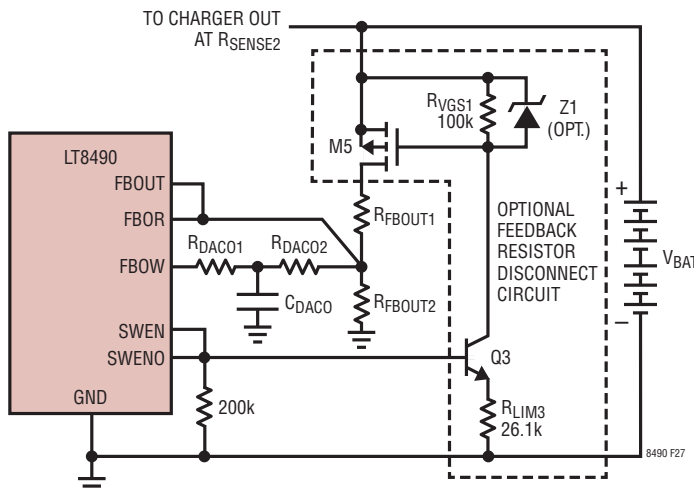
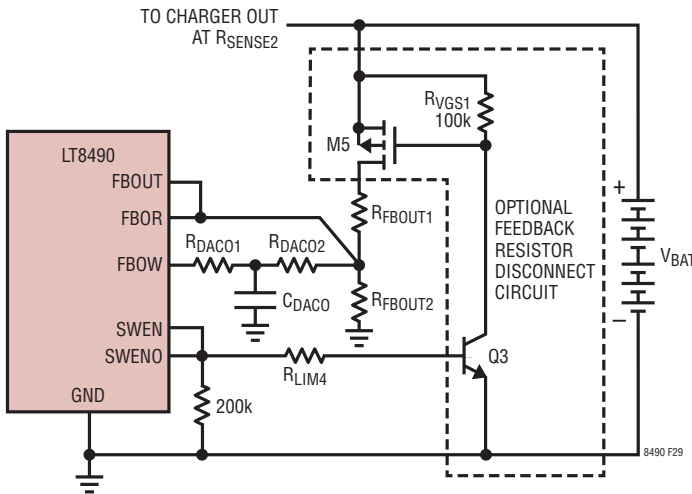
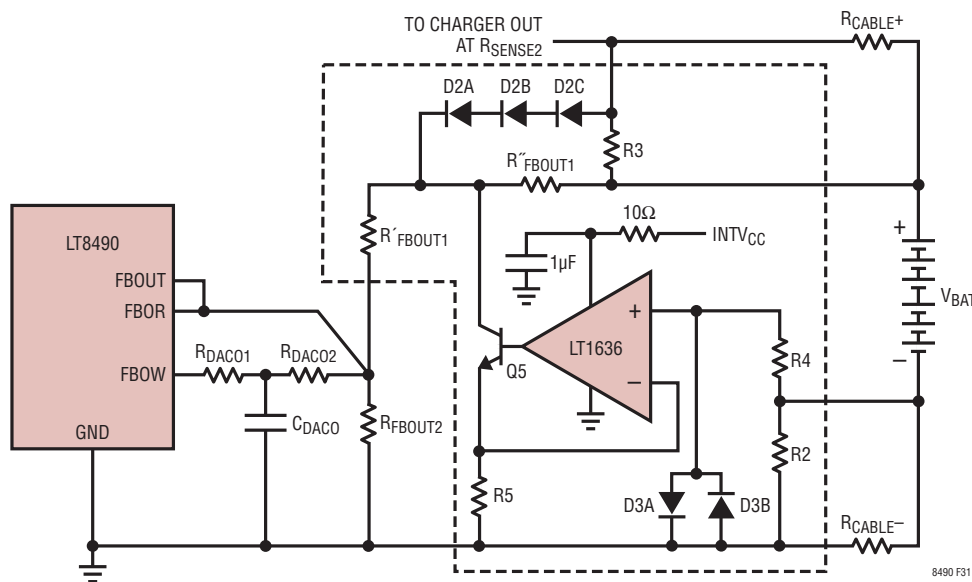
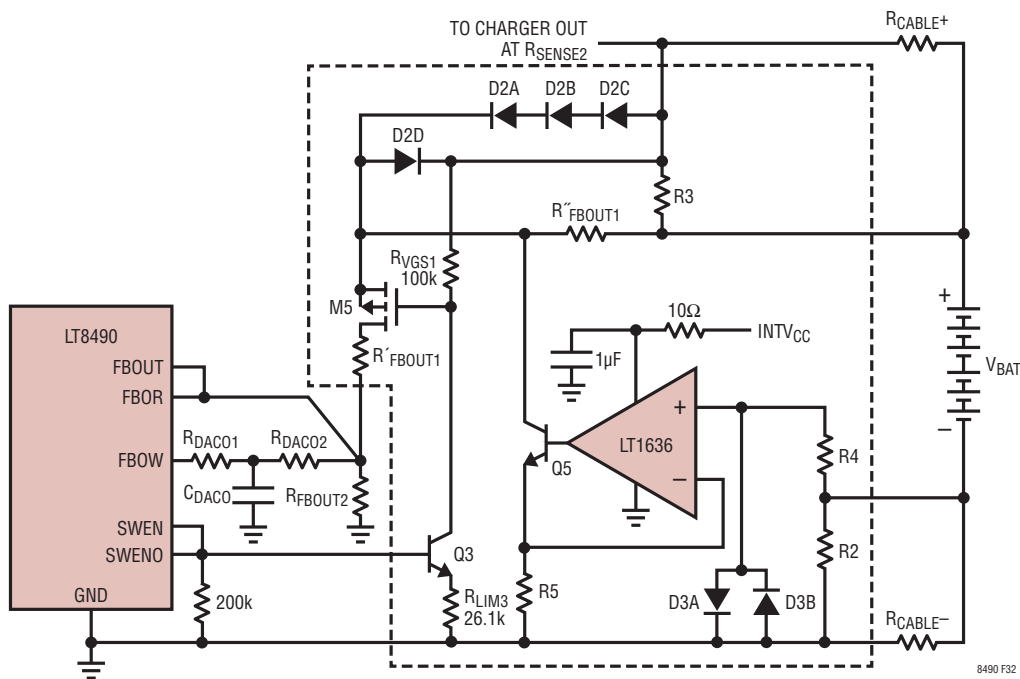

Figure 27. Optional Feedback Resistor Disconnect Circuit
Figure 28. Optional Low Battery Voltage Feedback Resistor Disconnect Circuit
Figure 31. Remove (+) and (-) Cable  $V_{IR}$  Measurement Errors
Figure 32. How to Combine Figure 27 and Figure 30
If desired, the resistors can be automatically disconnected from the battery when charging stops by using the circuit shown in Figure 27. This circuit is controlled by the SWENO signal from the LT8490 and connects the resistor feedback network when charging is taking place. When charging stops, the network is disconnected and current draw from the battery becomes negligible.
**SELECTING Z1:** Due to the transients that may occur during hot-plugging of a battery, this Zener diode is recommended to protect device M5 from excessive gate to source voltage. If using device Z1, the reverse breakdown voltage should be selected such that  $V_{GSON} < V_{Z1breakdown} < V_{GSMAX}$  where  $V_{GSMAX}$  is the maximum rated gate to source voltage specified by the device manufacturer. The BZT52C13 has a reverse breakdown voltage of 13V making it suitable for the  $R_{LIM3}$  value shown in Figure 27.
**ALTERNATE CIRCUIT:** For lower battery voltages (< 20V), Q3 in Figure 27 can saturate. To avoid this, consider connecting the emitter of Q3 directly to ground by removing  $R_{LIM3}$  and adding resistor  $R_{LIM4}$  to the base of Q3 as shown in Figure 28. Employing the optional feedback resistor disconnect at arbitrarily low battery voltages will be limited by the required gate to source voltage of M5.
Again, these effects become less significant at higher battery voltages because the charging current is typically lower and the cable drop becomes a smaller percentage of the total battery voltage. Using thicker and/or shorter battery cables is the simplest method for reducing these effects. Otherwise, the remote battery sensing circuit in Figure 31 can correct for these effects.
Figure 32 shows how to combine the remote sensing circuit (Figure 31) and the feedback resistor disconnect (Figure 27) for applications that require the most accurate battery voltage sensing and negligible battery drain when charging completes. The  $R_{VGS1}$  resistor can no longer connect to the source of M5 (as in Figure 27) since the  $R_{VGS1}$  current would also flow through  $R_{FBOUT1}$  causing an error in the measured battery voltage. Figure 31 shows that  $R_{VGS1}$  has been reconnected to the (+) battery sensing terminal.
Excessive inrush current can be mitigated by first connecting the battery or supply to the charger through a resistive path, followed quickly by a short circuit. This can be accomplished using staggered length pins in a multi-pin connector. This can also be accomplished through the use of the optional circuit shown in Figure 31 by first connecting the (+) and (-) battery remote sense connections, which allow the charger output capacitors to charge through resistors R2 and R3. Alternatively, consider the use of a Hot Swap™ controller such as the LT1641, LT4256, etc. to make a current limited connection.